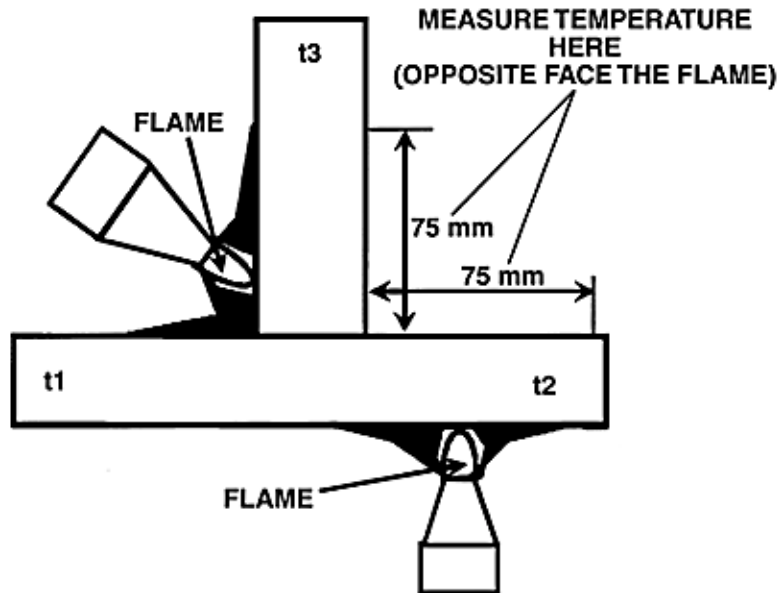

Figure 1. Recommended preheat zone and location of preheat measurement
- When preheating, follow the guidelines illustrated in Figure 1.
* Combined joint thickness t1+t2+t3 see Figure 1.; **Calculation based on heat input [Heat Input (kJ/mm)=(Volts × Amps × 0.06)/Travel Speed (mm/min)] of 1.7kJ/mm and maximum hydrogen level of 5ml/100g.
E309 and E310 electrodes are also suitable for welding NKK EHSP to austenitic manganese steels, with the correct preheat and arc energy input for both steel types. The manganese steel requires a maximum interpass temperature of 250°C (controlled as per Figure 1.) and fast cooling from welding temperature to avoid cracking of the manganese steel component.